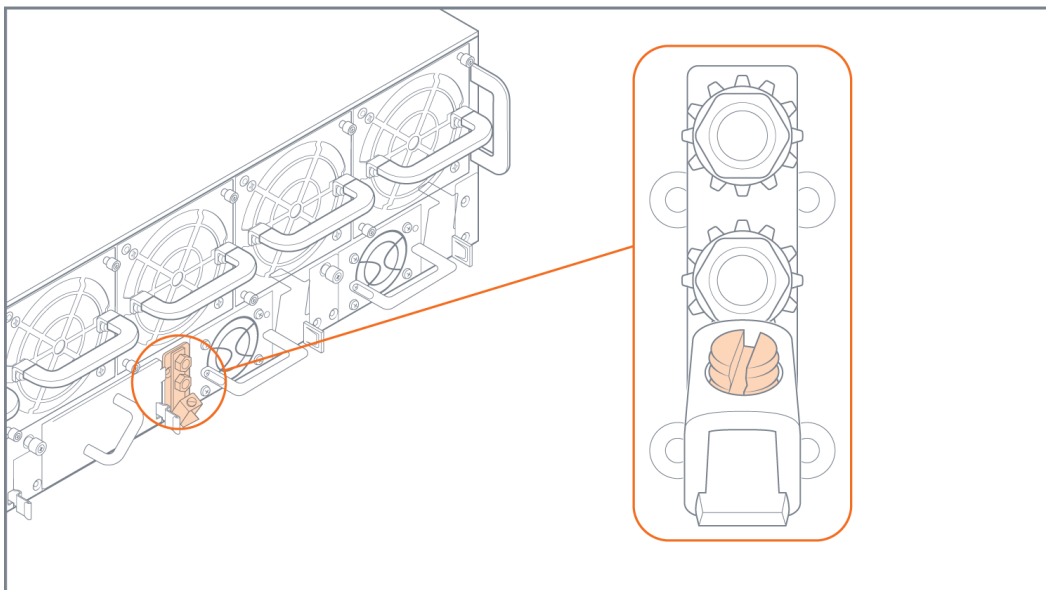

Figure 1 *Grounding Lug on Rear of GigaVUE-HC3*
1. Locate the grounding lug at the center rear of the chassis. Refer to Figure 1 Grounding Lug on Rear of GigaVUE-HC3 (or Figure 2 Rear View of the GigaVUE-HC3 Chassis) for the location on a GigaVUE-HC3 node.